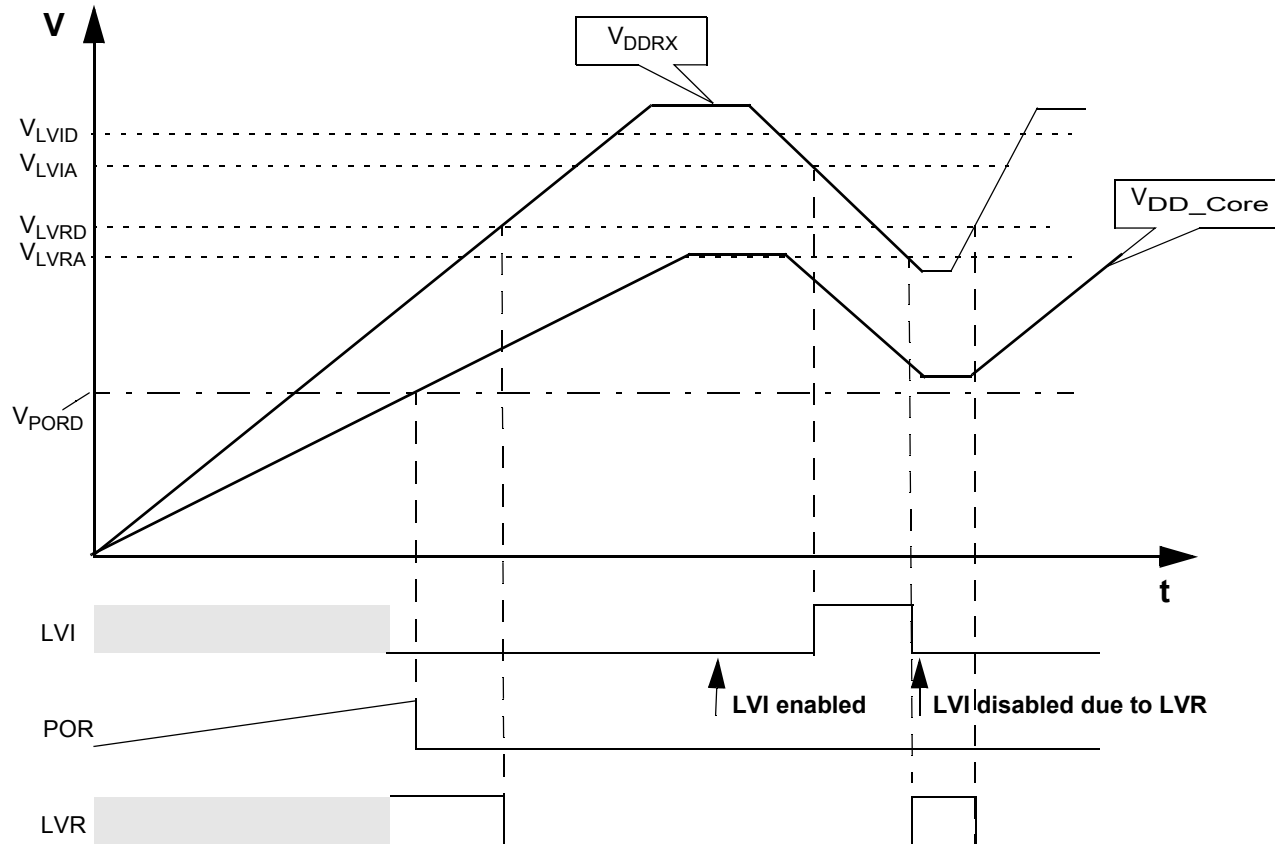

Figure 4. 9S12I32 - Chip Power-up and Voltage Drops (not scaled)
34. Monitors VDDRX, active only in Full Performance mode. MCU is monitored by the POR in RPM (see Figure 4).